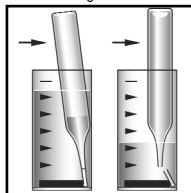

Figure 3
3. Immediately place the Vacu-vial ampoule, tip first, into the sample cup and snap the tip. The ampoule will fill leaving a bubble for mixing (fig. 3).